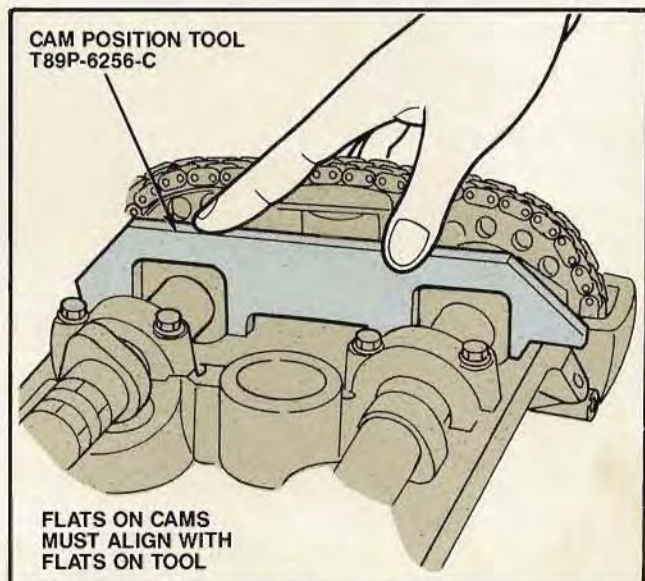

Figure 131. Cam Position Tool
- Set Cam Position Tool T89P-6256-C over the camshaft flats to assure they are properly aligned (Fig. 131). If the tool fits properly it means that camshaft timing is correct. This is essential to proper engine operation.